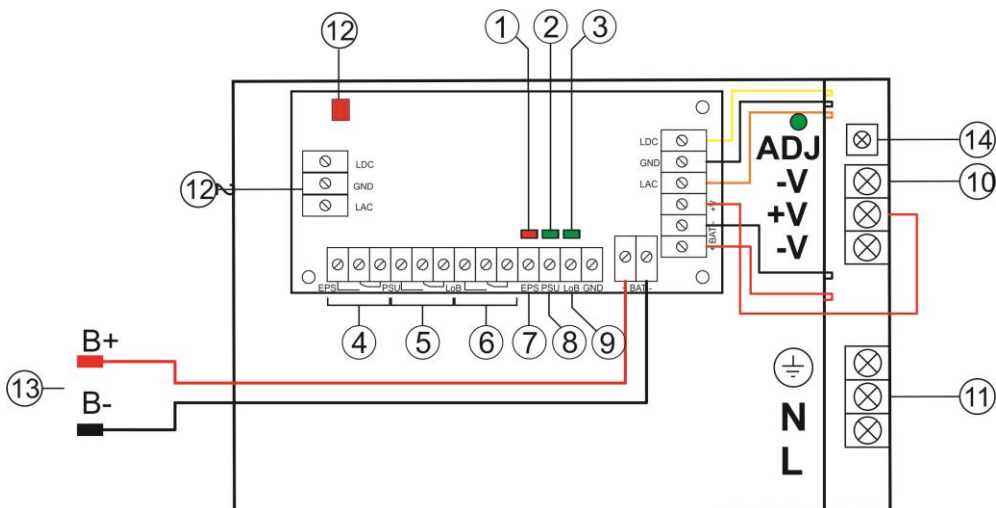

Fig. 2. The view of the PSU.
Table 1. Elements of the PSU (see fig. 2).
- red LED (Fig.2, element 1) normal status (AC power): permanently illuminated. AC power absence is indicated by the AC diode going out.
- green LED (Fig.2, element 2) indicates DC power at the PSU output. Under normal status the diode is permanently illuminated. In case of a short circuit or an overload, the diode is off.
- green LED (Fig.2, element 3) indicates battery voltage level. Under normal status ($U_{BAT} > 11,5V$) the diode is permanently illuminated. In case of decrease of battery voltage ($U_{BAT} < 11,5V$) the diode is off.
CAUTION! In Fig.2. the contact set in the potential-free status corresponds to a state with no AC power (AC power failure).
CAUTION! In the Fig.2. the set of contacts shows a potential-free status of the relay which corresponds to a state with no DC power (PSU failure).
CAUTION! In the Fig.2. the set of contacts shows a potential-free status of the relay which corresponds to a state with low battery level ($U_{BAT} < 11,5V$).